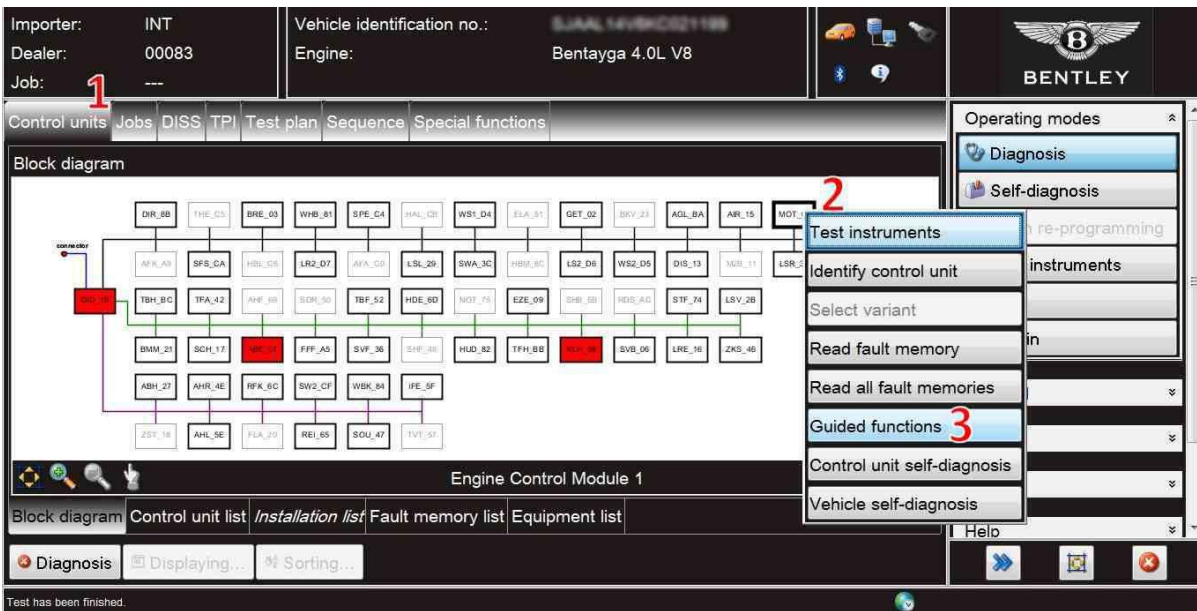

Figure 11
10) Referring to Figure 11 - Navigate to the Control units tab (1) - Select (2) 'MOT_01' Engine Control Module 1 - Select Guided Functions (3)